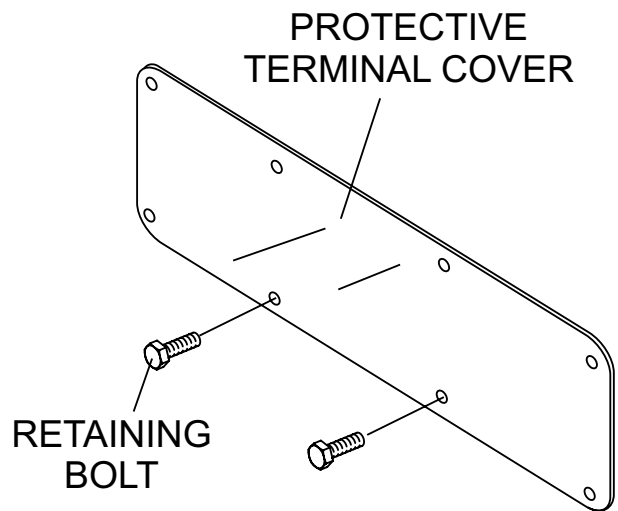

Figure 13. Protective Terminal Cover (UVWO Terminal Lugs)
The **output terminal lugs** are protected by a protective cover (Figure 13). Un-screw the securing bolts (8) and remove the cover to gain access to the output terminal lugs.